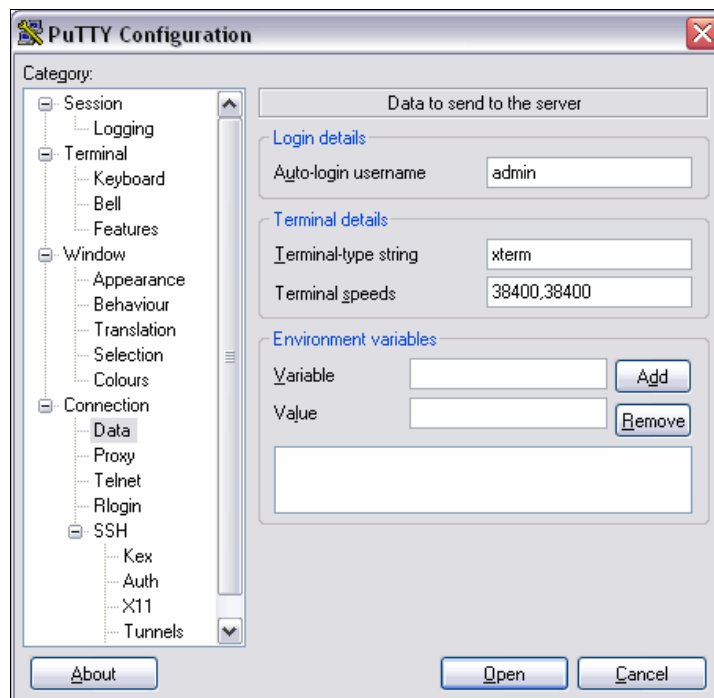

Figure 9-4 Configuring the auto-login user name
- The auto-login user name, which you set to the user created specifically to perform batch operations. To set this parameter, click **Connection** → **Data** in the left pane of the PuTTY Configuration window, as shown in Figure 9-4 on page 329.
Note: In Figure 9-4 on page 329 we use the admin user but you should try to contain the privileges of the user dedicated at batch operations to the bare minimum.